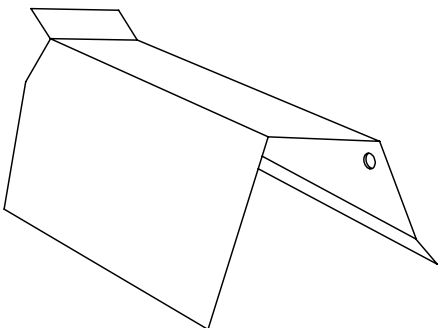

Figure 1. Drip Guard Folded
3. Prepare the drip guard for installation by folding along the score marks to form the shape shown in figure 1.